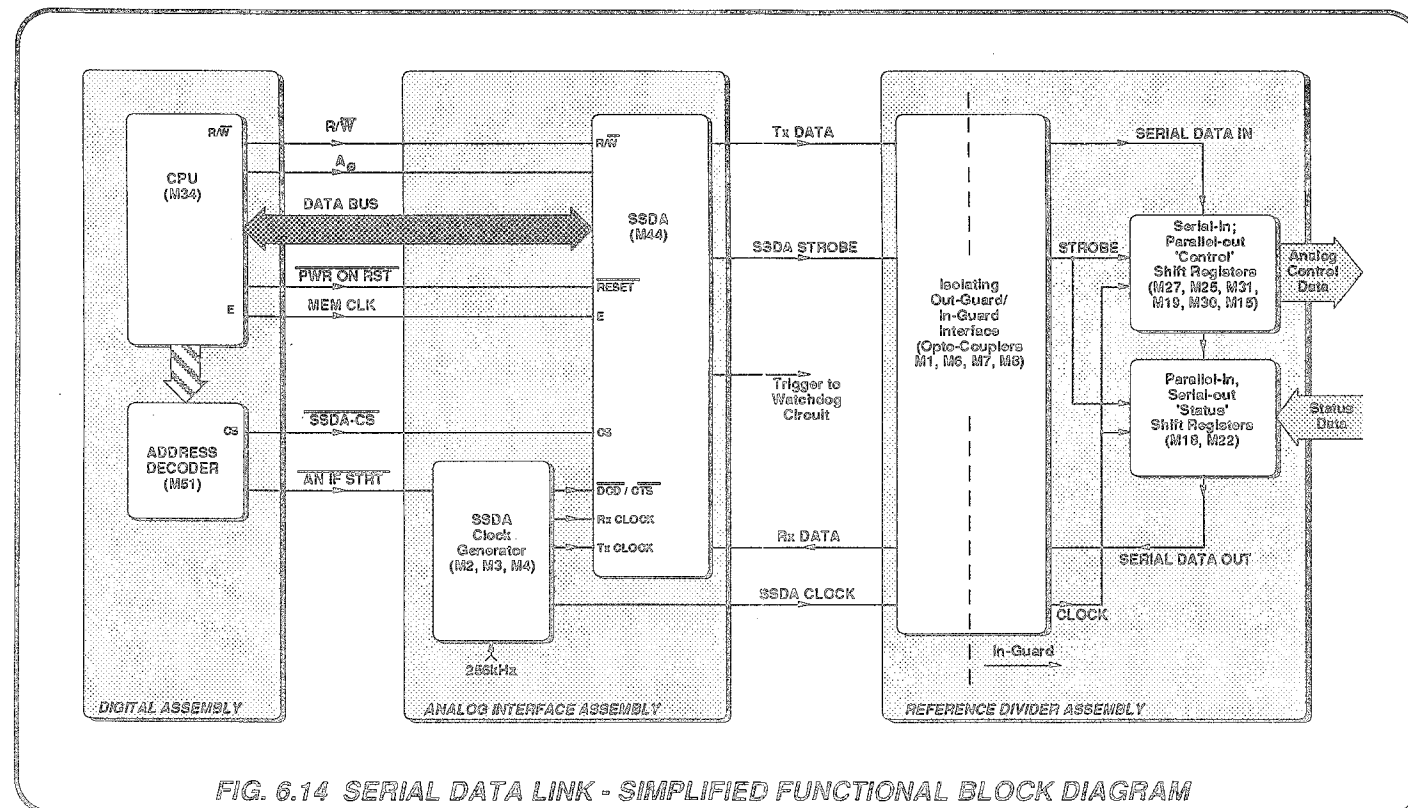

FIG. 6.14 SERIAL DATA LINK - SIMPLIFIED FUNCTIONAL BLOCK DIAGRAM
- Provides a two-way interface via a serial data link between out-guard digital processing and in-guard analog control circuitry on the reference divider assembly (see Fig. 6.14).
Certain selected 'Status' signals, originating in the analog assemblies, are returned to the CPU during the data transfer. Thus, the data link forms a continuous loop, as shown in Fig. 6.14.
(Circuit Diagrams: 430796 Page 11.2-2, 430648 Page 11.3-3, 430652 Pages 11.4-4 and 11.4-5 and Fig. 6.14))
(Fig. 6.14)